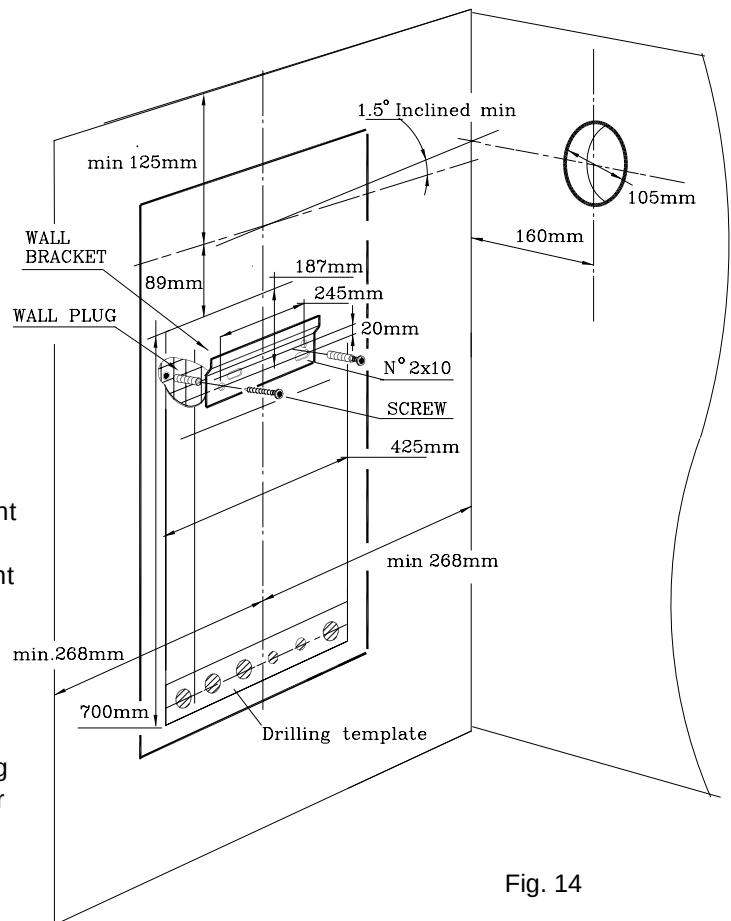

Fig. 14
**5.6 INSTALLING THE APPLIANCE FOR SIDE FLUE OUTLET (Fig. 14 15 16 17 18 19)**
- Attach the template to the wall with adhesive tape, making sure that the centre line is vertical and that the distance from the centre line to the nearest side wall is not less than measurement in Fig.14.
- Trace the centre of the flue duct hole measure distance . From the corner of the wall (Fig.14), measure the distance (160 mm) between the centre of flue duct hole to the corner. Detach the template from wall.